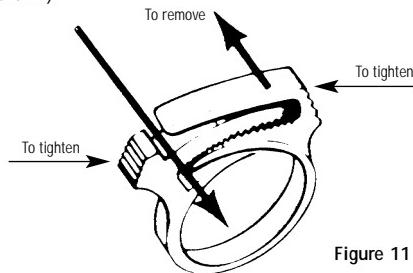

Figure 11
1. Remove nylon clamp from plastic anchor plate on hood (see Figure 11).